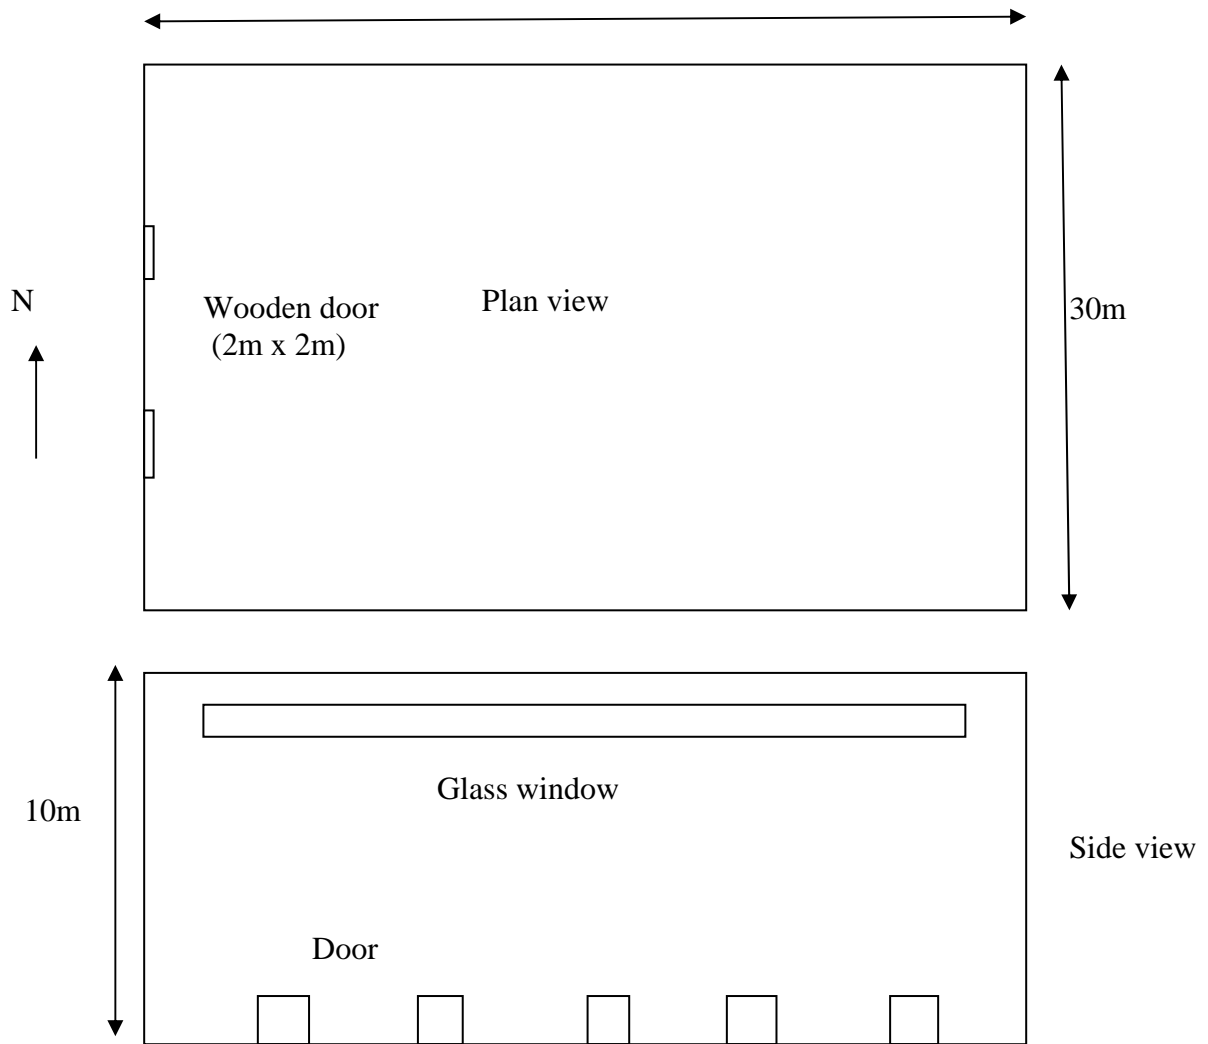

Figure Q5
- Q5. A sketch of a examination hall is shown in Figure Q5. The following are the details: